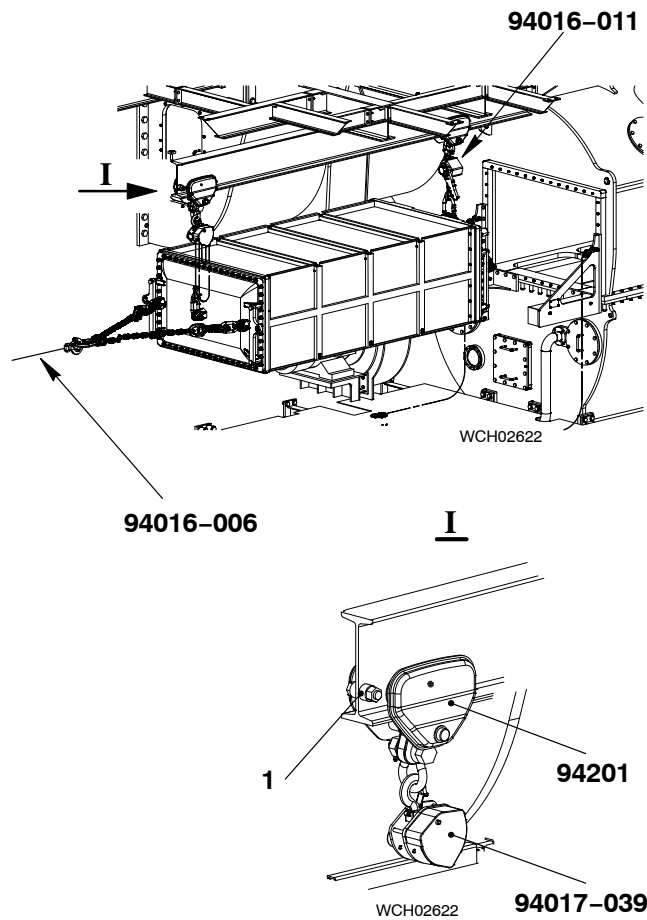

Fig. 6
- 29) Operate the the manual ratchet (94016 006, Fig. 6) until the SAC is clear of the two supports.
- 30) Continue to operate the manual ratchet (94016 006) until the trolley (94201) touches the end stop (1).